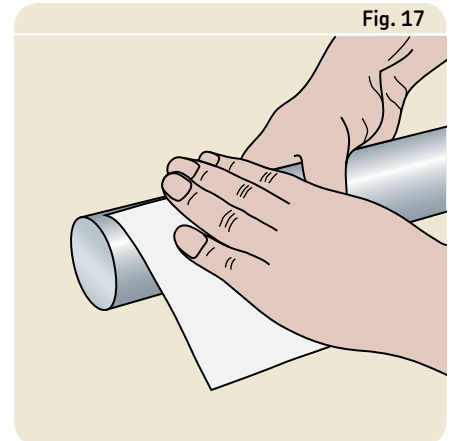

Fig. 17
- 1 Remove any burrs on the shaft with emery cloth or a fine file, wipe clean with a cloth and check the shaft diameter (→ **fig. 17**).